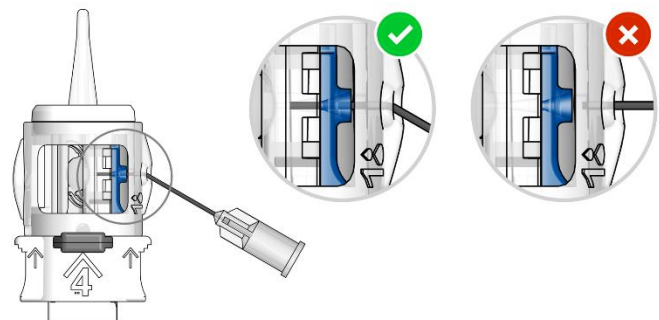

Fig. 1
3. Fully introduce the cannula (23-27G) of a syringe filled with viscoelastic material into the small aperture indicated with '1' (Fig. 1) until it is completely inserted into the blue funnel. Maintain a slight pressure on the cannula tip while injecting the viscoelastic solution through the aperture. The injected quantity of OVD is sufficient as soon as the IOL is fully covered by the viscoelastic solution.